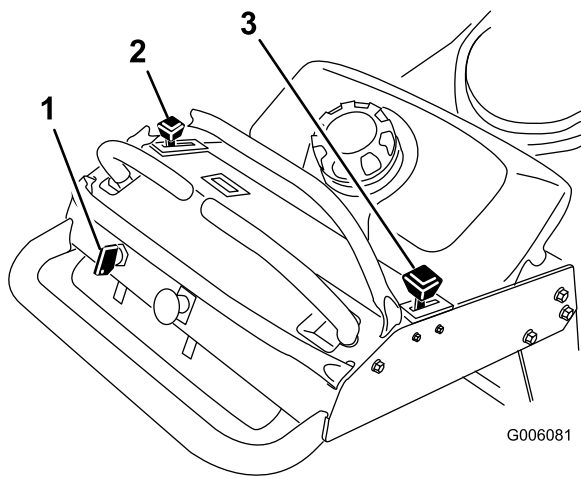

Figure 7
4. Move the throttle control to fast and move the choke lever to the on position before starting a cold engine (Figure 7).
- Move the throttle lever to slow (Figure 7).